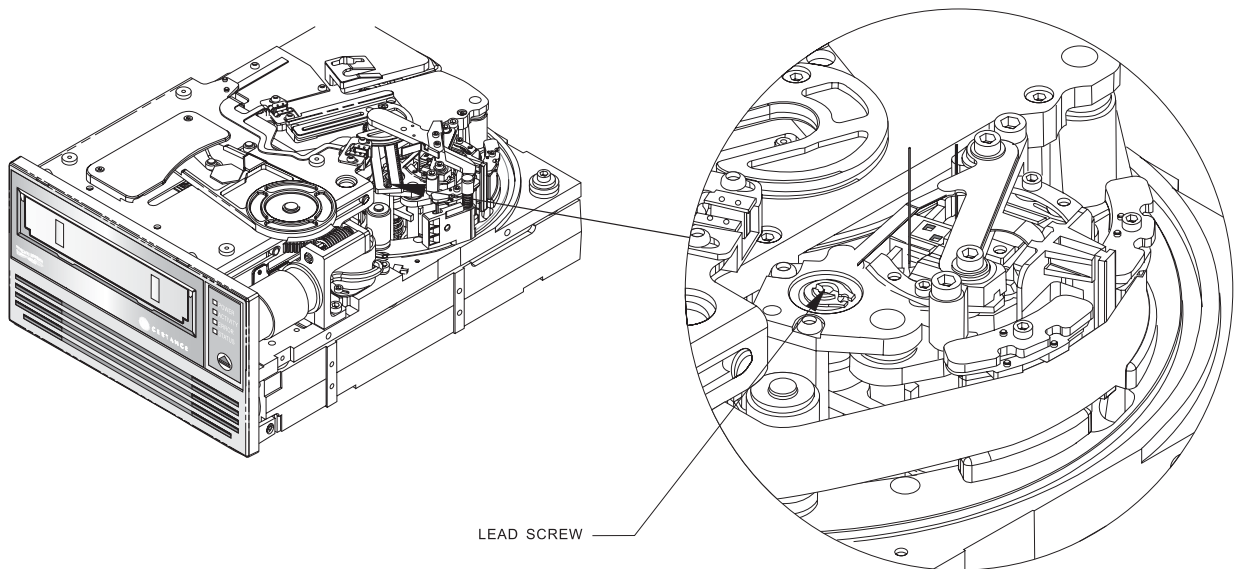

Figure 4. Lead Screw (Tape Threaded on Take-up Reel)
1. Be sure the head assembly is in the lowered position by turning the lead screw (see Figure 4 on page 5 **Error! Bookmark not defined.**) clockwise with the flat blade screwdriver. This is necessary to allow the load arm to clear the head assembly when it is moved back toward the cartridge.